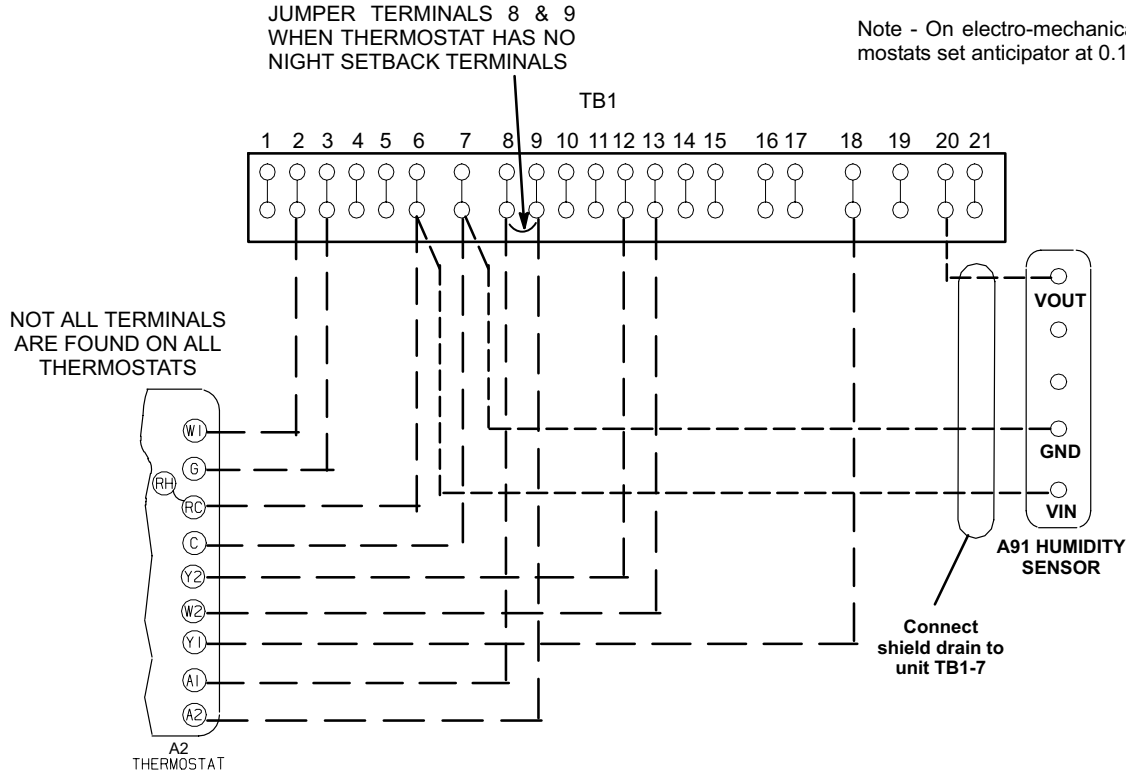

FIGURE 41
- 1- Make sure RH sensor is wired as shown in figure 41 or 42.